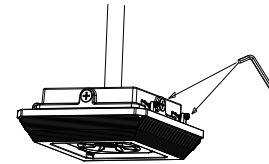

FIGURE 1-7
7. Lock the two cap screws, then installation is finished (Figure 1-7)